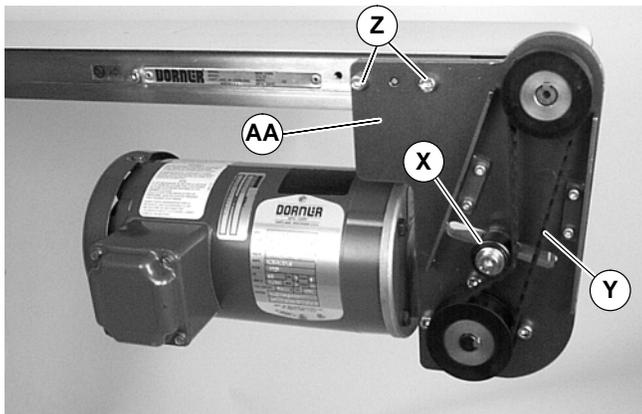

Figure 19
- b. Loosen tensioner (X of Figure 19).
- d. Remove (2) mounting screws (Z of Figure 19). Remove mounting package with gearmotor (AA).